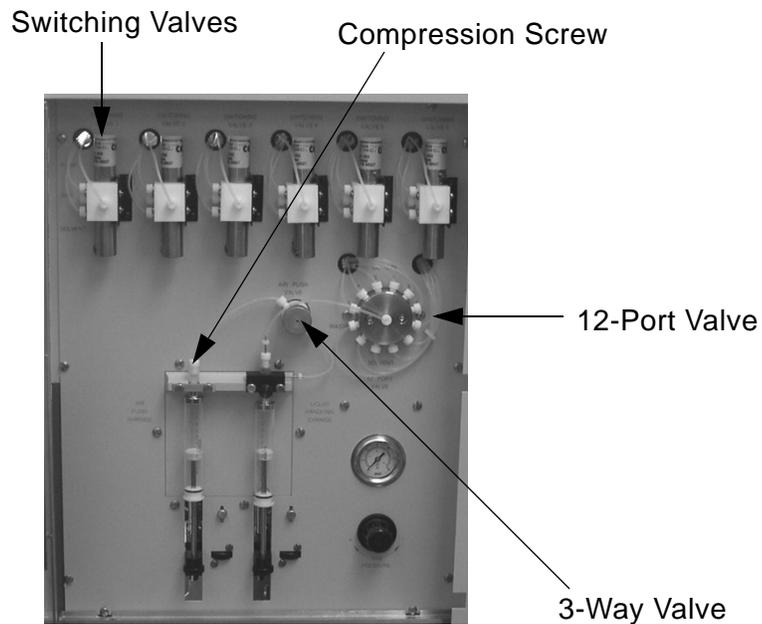

Figure 13. AutoTrace Left Side View
- 1 Open the workstation's side door and locate the white compression screws on the 3-way valve, 12-port valve, switching valves, and syringes, as shown in Figure 13.